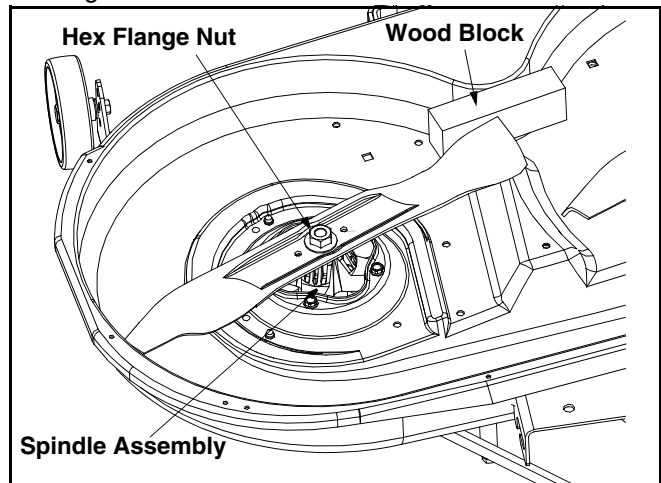

Figure 23
- Place a block of wood between the center deck housing baffle and the cutting blade to act as a stabilizer. See Figure 23.
- Use a 15/16" wrench to remove the hex flange nut that secures the blade to the spindle assembly. See Figure 23.